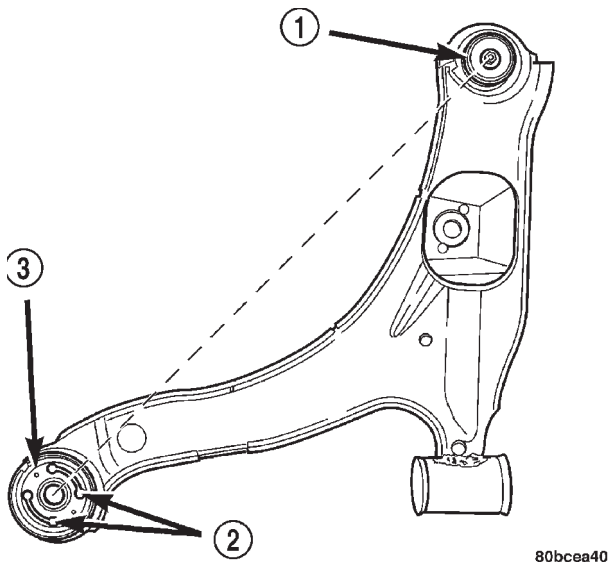

Fig. 50 Aligning Bushing With Ball Joint
(2) Start the bushing in the lower control arm bushing bore by hand. Position the bushing so the voids in the rubber are aligned in relationship to the ball joint as shown (Fig. 50).